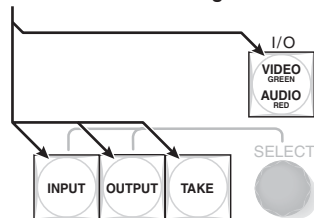

Figure 3-8 — Control panel lockout
1. Press and **hold** all four front panel buttons (figure 3-8) until all four buttons blink and then light amber, and the LCD displays the name of the executive mode that was entered (approximately 3 seconds).